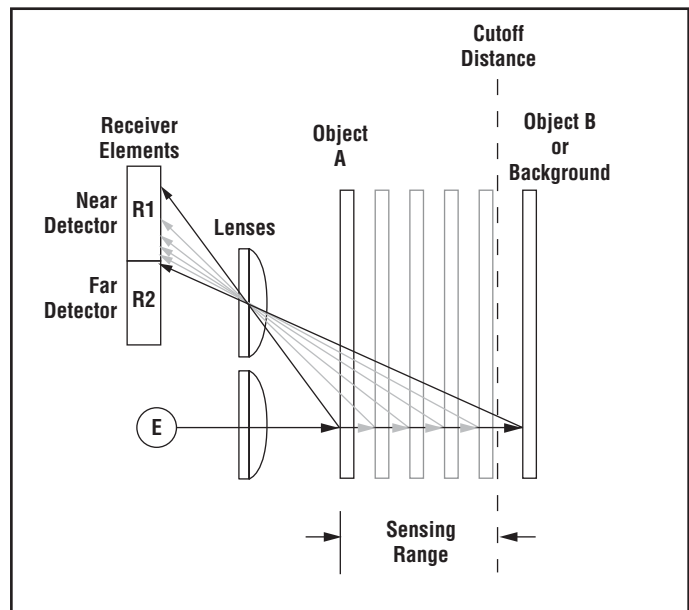

Figure 2. Adjustable field sensing concept
In operation, the Q60AFV compares the reflections of its emitted light beam (E) from an object back to the sensor's two differently-aimed detectors R1 and R2 (see Figure 2). If the near detector (R1) light signal is stronger than the far detector (R2) light signal (see object A, closer than the cutoff distance), the sensor responds to the object. If the far detector (R2) light signal is stronger than the near detector (R1) light signal (see object B, object beyond the cutoff distance), the sensor ignores the object.